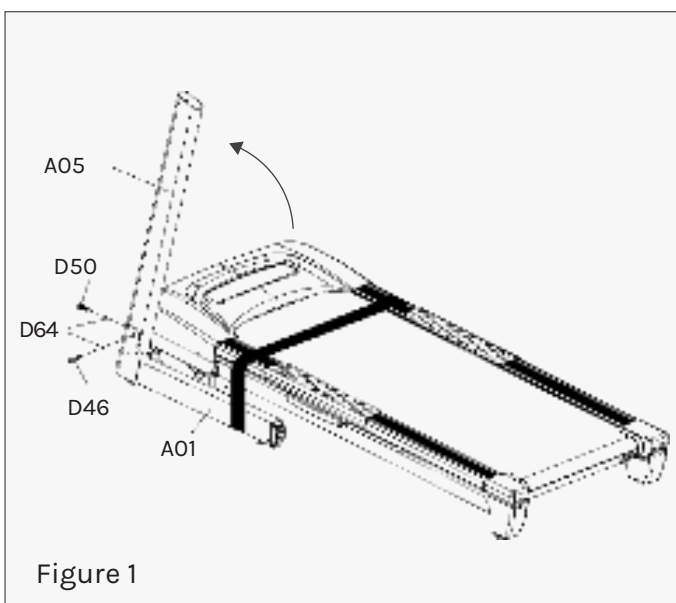

Figure 1
1. Lift the Left Upright Tube (A05) upwards. See Figure 1.